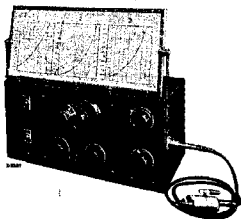

Fig. 1
1. Service oscillator GM 2880 F (fig. 1).